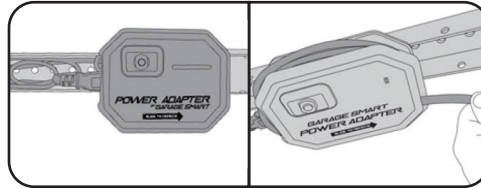

fig 4.5
9. You can also organize cables by winding the excess cable around the Power Adapter housing or placing the cable in the channel of the Smart Track. (fig 4.5)